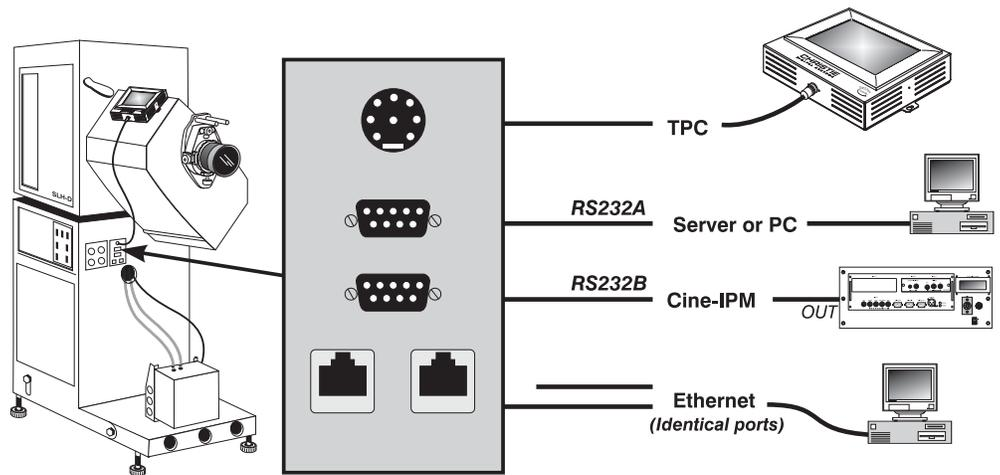

Figure 2.20. Communication Connections
Connect to a laptop or PC to one of the Communication Panel ethernet ports if possible. Or use a standard RS-232 cable to connect to the top RS-232 port (A) on the Communication Panel. If needed in your installation, connect other equipment as shown in Figure 2.20. For a complete explanation, see 2.9, *Connecting Serial and Ethernet Communications* later in this section.